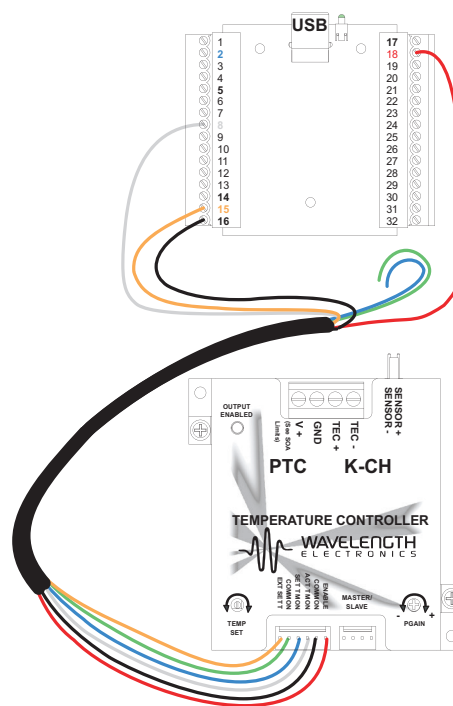

Figure 1. Example Wiring Diagram
- Select the Wavelength product, and wire it according to the onscreen diagram. An example wiring diagram is shown in **Figure 1**, at right. The wiring diagram displayed in the software is determined by the controller that is selected. All product wiring diagrams can be found in the Additional Technical Information section (**page 18**).